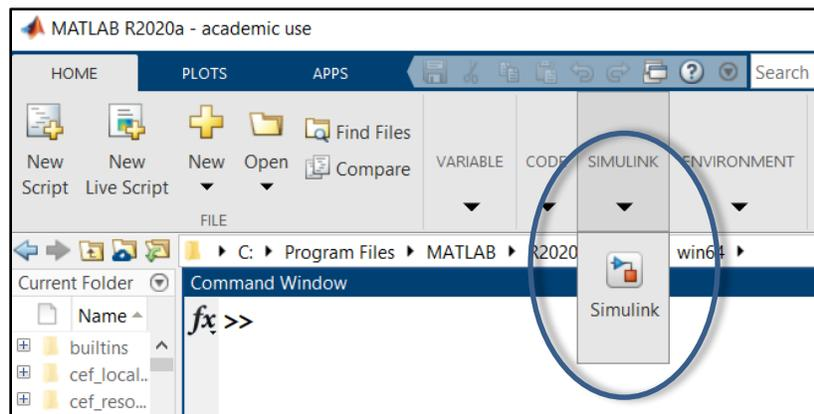

Figure 1. Starting Simulink.
1. Open MATLAB, and type in command line: `simulink` . Alternatively, use the menu button and select “Simulink” (see Figure 1).